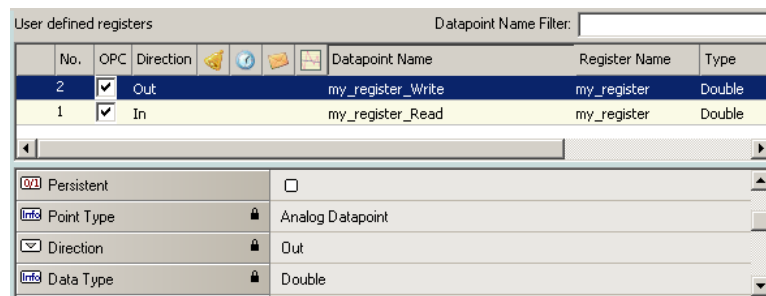

Figure 112: Manually created user register.
- Two data points now appear for the register, one for writing the register and one for reading the register as shown in Figure 112.